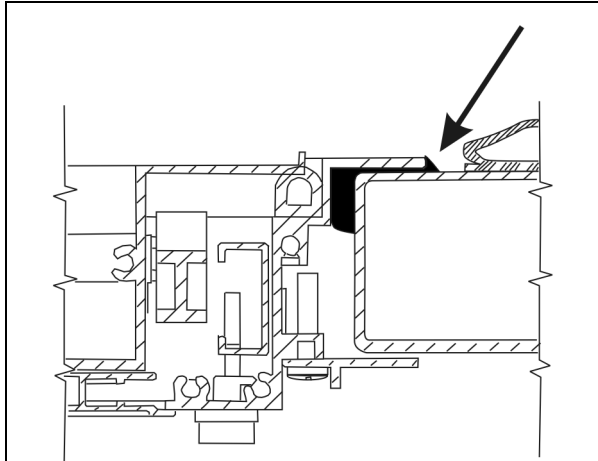

FIGURE 68 : SMOOTH DOWN THE JOINT
10. Open the awning window manually and smooth down the joint (FIGURE 68) and remove glue in excess with Sika 208.